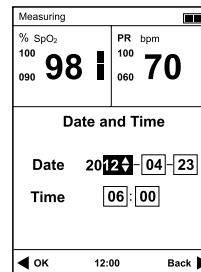

Fig.4-2
- 2) Press the Navigation button to select “Date and Time” item, and then press the OK button to enter the time setup screen, refer to Fig.4-2.